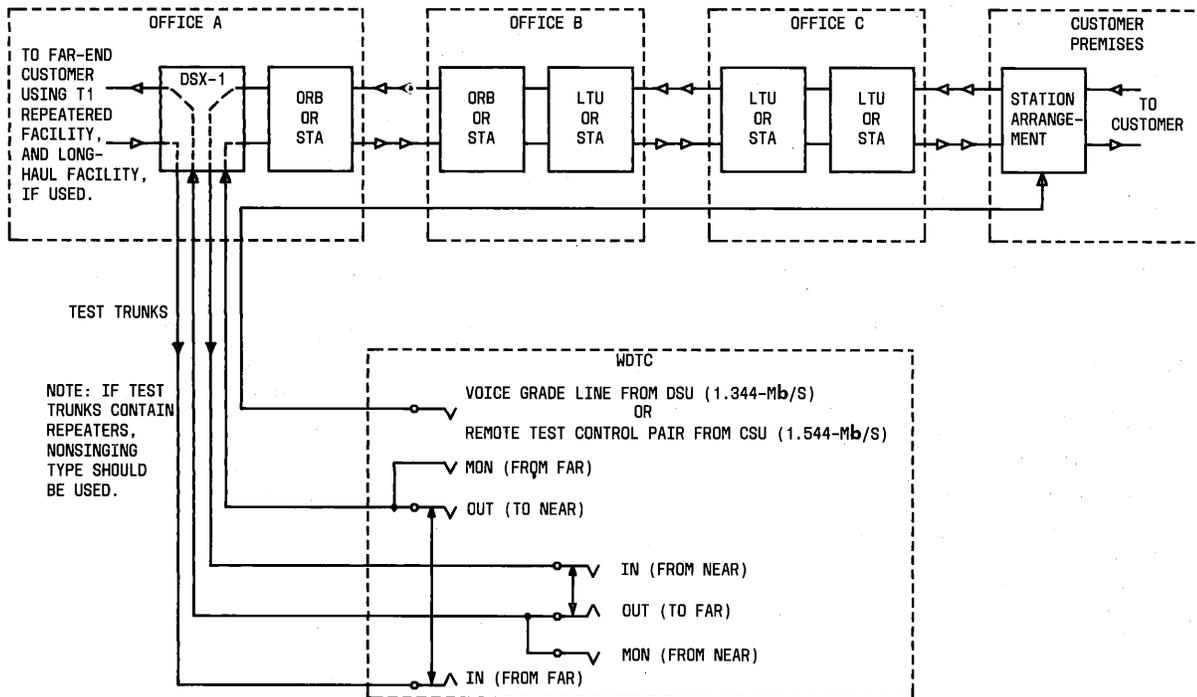

Fig. 1—Example of Near End Digital Service Facility With WDTC Patched for Testing
- 1.03** Figure 1 shows an example of the near-end of a digital service facility with the wideband data test center (WDTC) patched for testing.